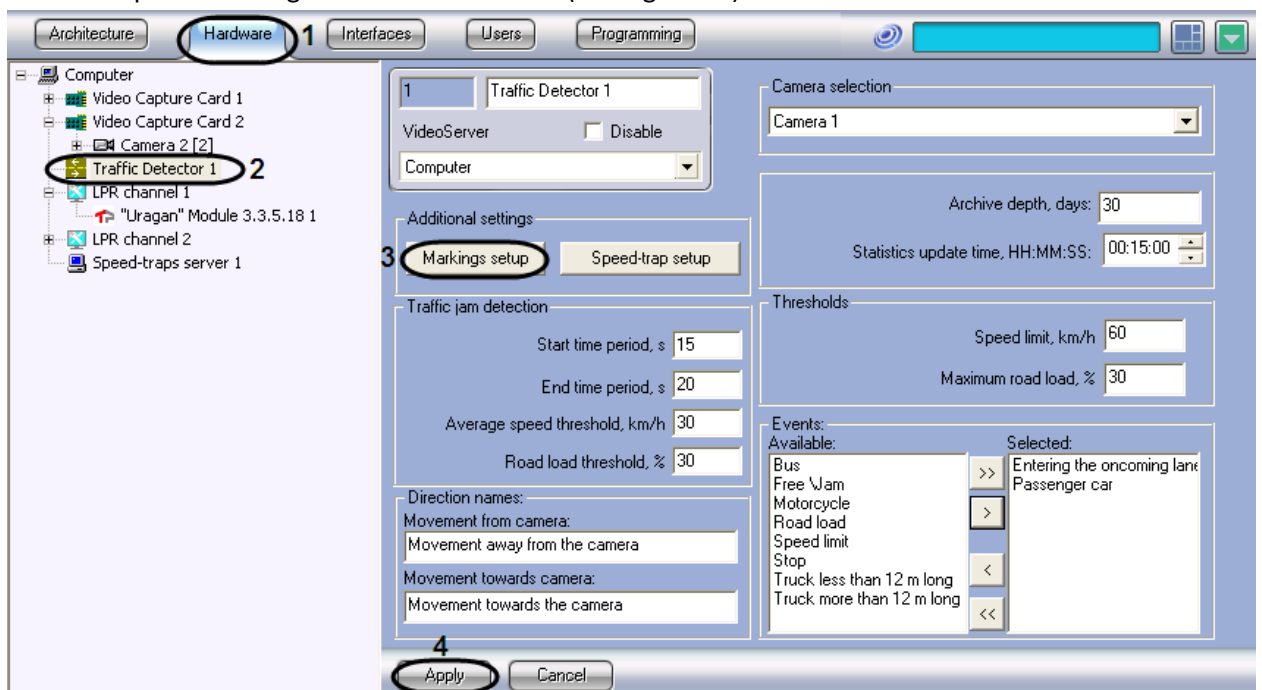

Fig. 7.4-4 Opening the markings setup window
2. In the object tree on the left side of the Hardware tab, select the Traffic Detector object representing the Traffic Detector module to be set up. The settings panel of the selected object will open on the right side of the window (see Fig. 7.4-4).
9. Click Apply (see Fig. 7.4-4).